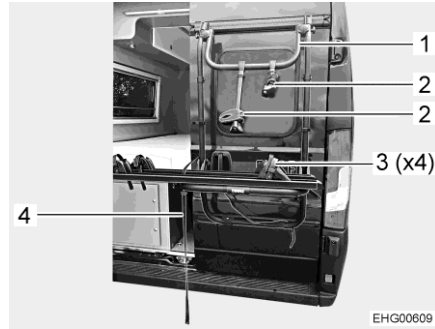

Fig. 1 Bike rack
- Open the closure strap (Fig. 1,4).
- Position the bicycle on the rail and fasten it to the retaining bracket (Fig. 1,1) with the retaining arm (Fig. 1,2).
- Secure the front wheel and rear wheel of the bicycle to the wheel rail using retaining straps (Fig. 1,3).
- Close the closure strap (Fig. 1,4).